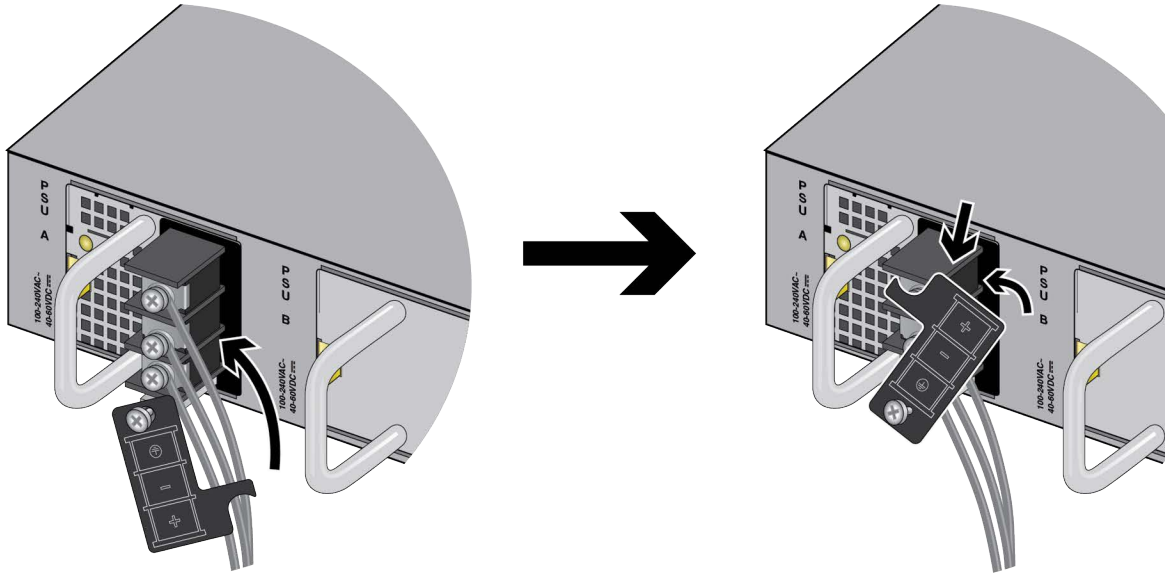

Figure 72. Placing the Cover Panel
8. Place the cover panel back to cover the connectors. Refer to Figure 72.